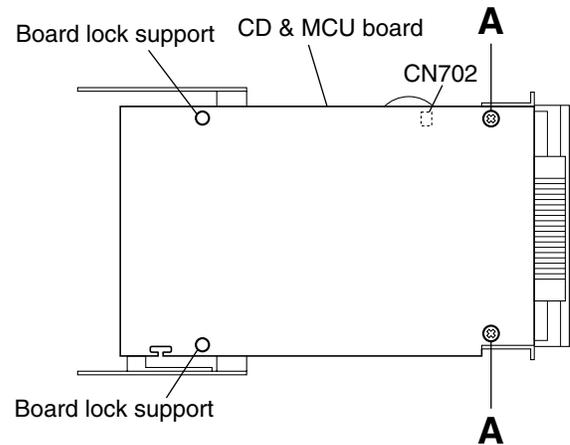

Fig.1
(See Figs. 1 and 2.)
1. From the bottom side of the CD mechanism assembly, remove the two screws **A** retaining the CD & MCU board. (See Fig.1.)
2. Disengage the two board lock supports retaining the CD & MCU board. (See Fig.1.)
3. Disconnect the wires from the two connectors CN702 and CN703 on the CD & MCU board. (See Figs.1 and 2.)